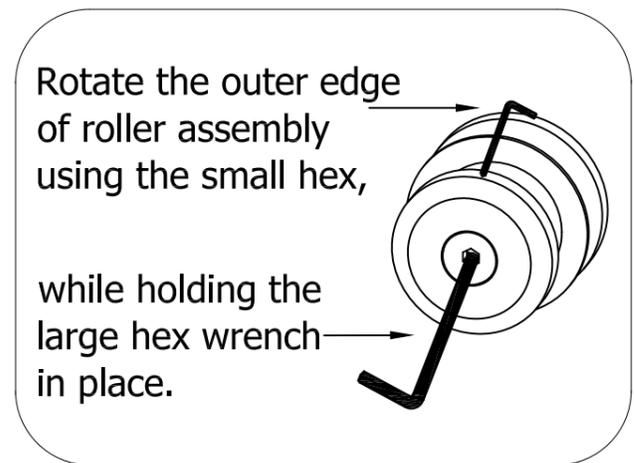

Fig. 21
Note: In Fig.21 the hole locations for attaching sliding door track divider should be 1 13/16" from edge of Large Fixed Glass (3).
See Fig.21 for details.